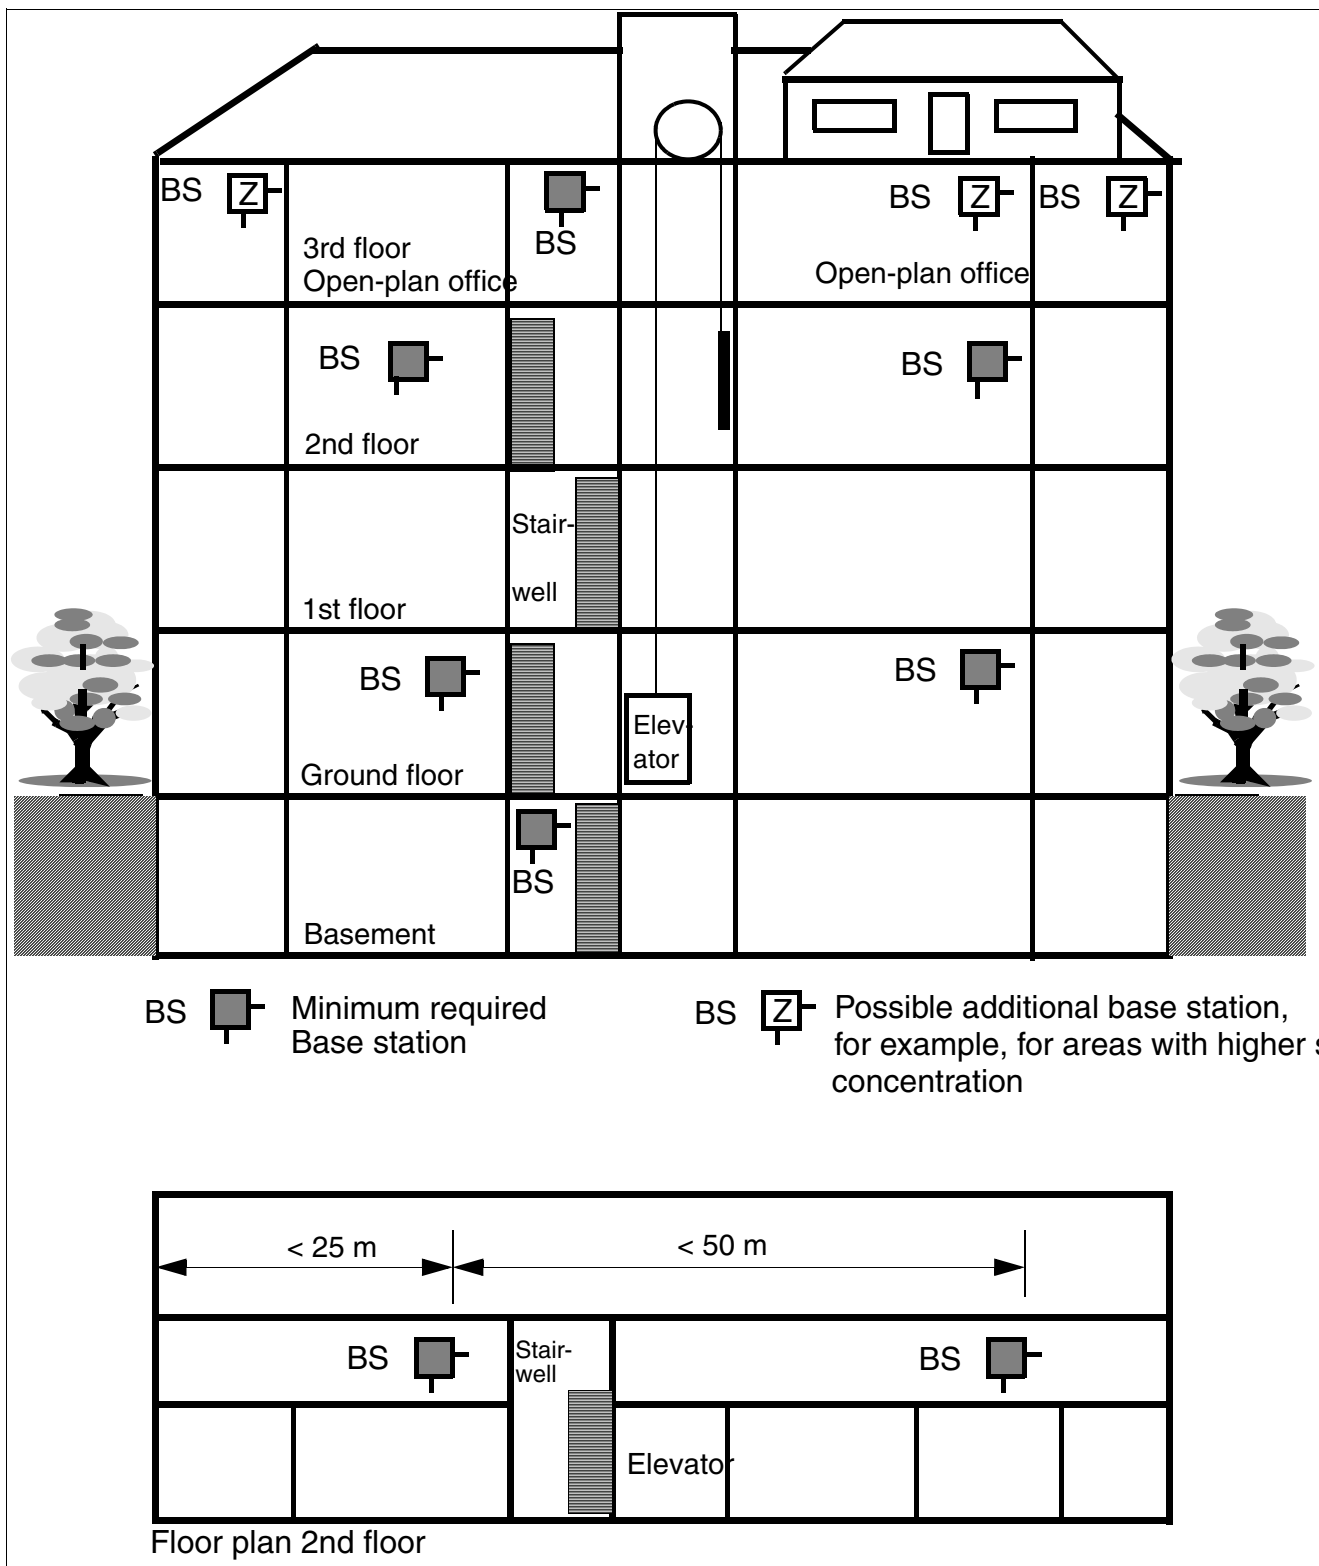

Figure 12 Base station distribution in interiors of brick and light construction materials
- For interiors of brick or light construction materials (Figure 12)
- If additional base stations are needed because of a large number of mobile telephones, see Figure 12.
- Within halls or open-plan offices (Figure 12)